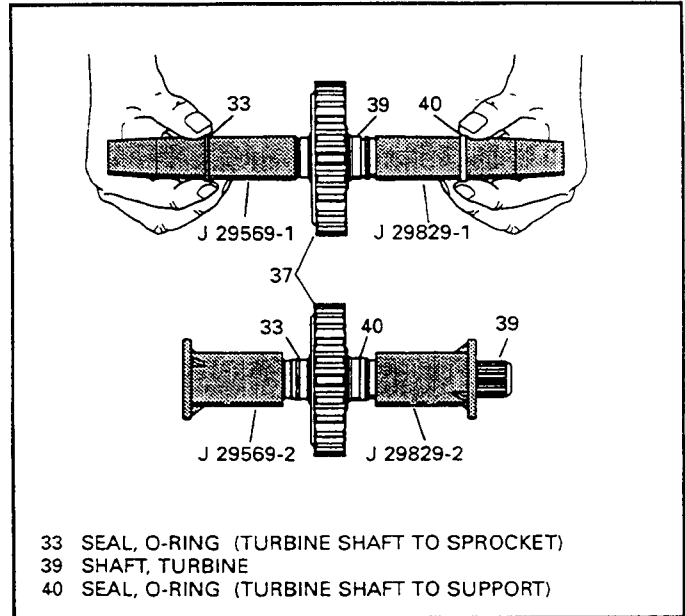

Figure 165
3. Install three new sealing rings onto the turbine shaft using the installation and resizing tools shown in Figure 165.